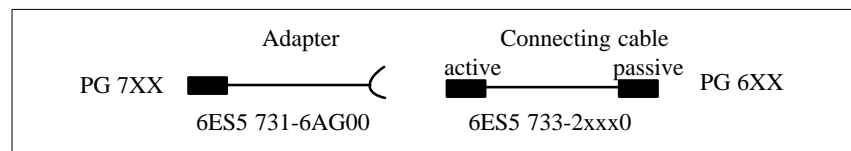

Figure 4-11 Direction of Connection: Adapter-Connecting Cable
1) When connecting the programming devices in series, make sure you connect the cable the right way round (see Figure 4-11).